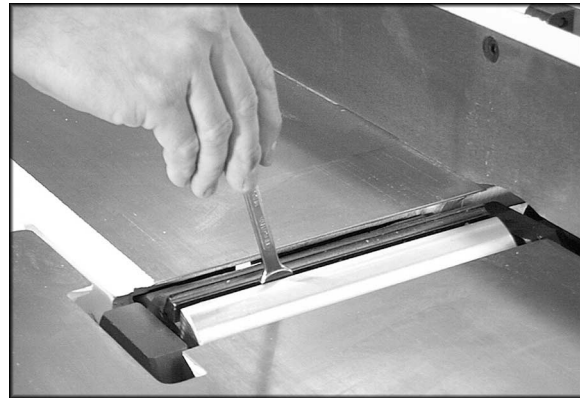
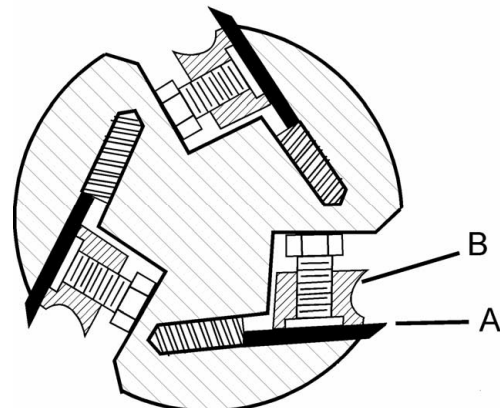

Figure 22
Figure 23
3. Loosen the lock screws (Figure 22). Note: Loosen screws by turning in a clockwise direction as viewed from the infeed table. Carefully remove the knife (A, Figure 23), and the lock bar with screws (B, Figure 23). Repeat for the other two blades.